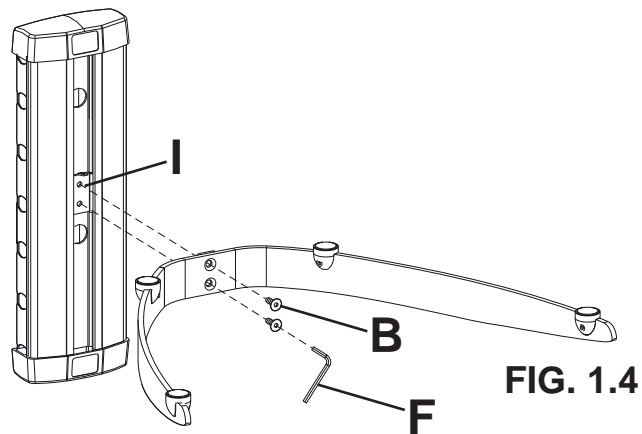

FIG. 1.4
- 1-3** Attach shelf bracket (A) to shelf attachment clamp (I) using two M5 x 12 mm screws (B) shown in figure 1.4. Adjust the level of the bracket to desired height then tighten screws with 3 mm allen wrench (F). Place glass shelf (G) onto shelf bracket (A) and secure with M5 x 12 mm screw (B) using 3 mm allen wrench (F) as shown in figure 1.5.